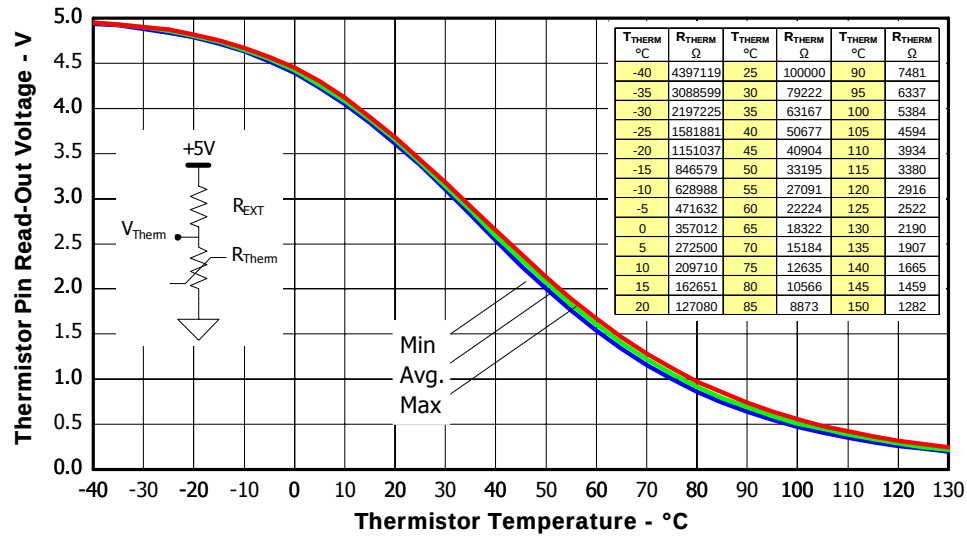

Figure 9. Thermistor Readout vs. Temperature (47kohm pull-up resistor, 5V) and Nominal Thermistor Resistance values vs. Temperature Table.
3. Value of the boot-strap capacitors depends upon the switching frequency. Their selection should be made based on IR design tip DN 98-2a, application note AN-1044 or Figure 9. Bootstrap capacitor value must be selected to limit the power dissipation of the internal resistor in series with the V_{CC} . (see maximum ratings Table on page 3).